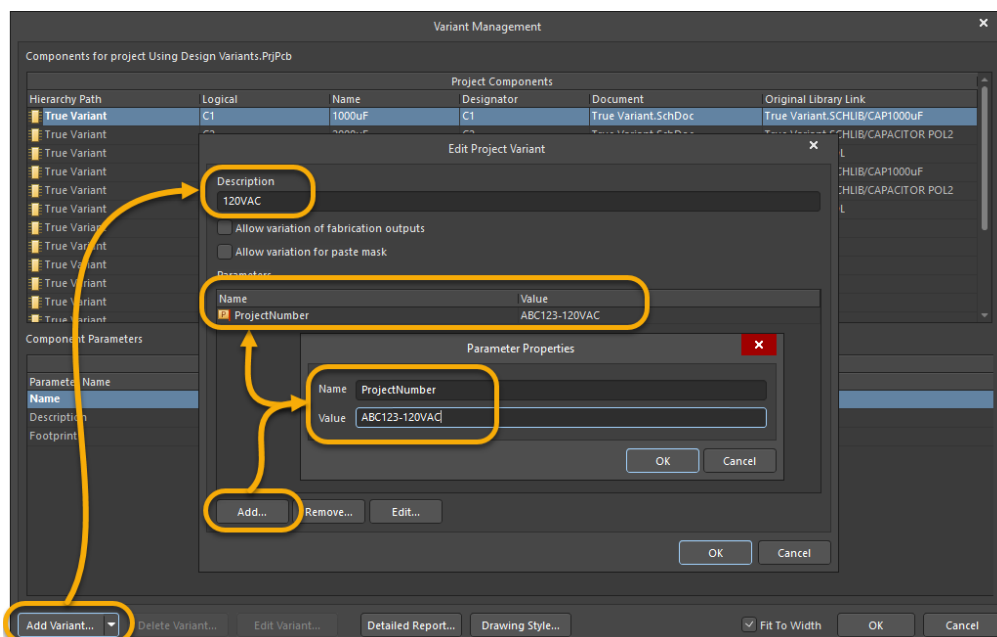

Figure 2. Creating New Variants
11. You will create two new variants for this project. Use Figure 2 below as a reference.
- b) In the *Description* field, name the first variant as `120VAC`, Figure 2.